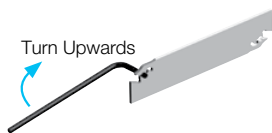

Fig. 1 Wrench Usage
1. Insert provided wrench and turn upwards as shown in (Fig. 1)